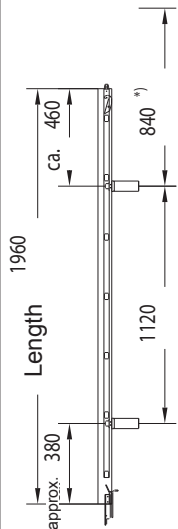

Fig. 11
- Length 1,680 mm: 6 kg (Fig. 11)
- Length: 1,680 mm (Fig. 11)